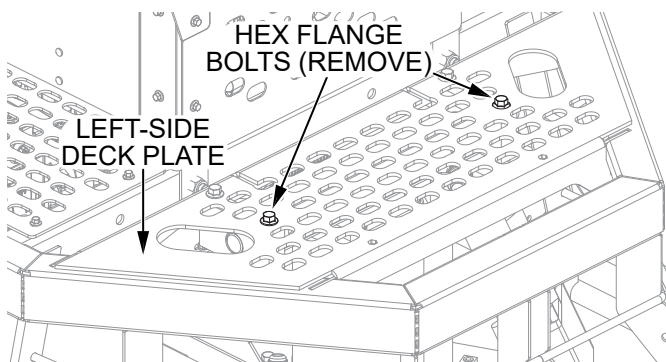

Figure 2. Remove Two Hex Flange Bolts
1. Remove the two outer hex flange bolts (Figure 2) securing the left-side trunnion to the left-side deck plate. Keep the bolts for later.